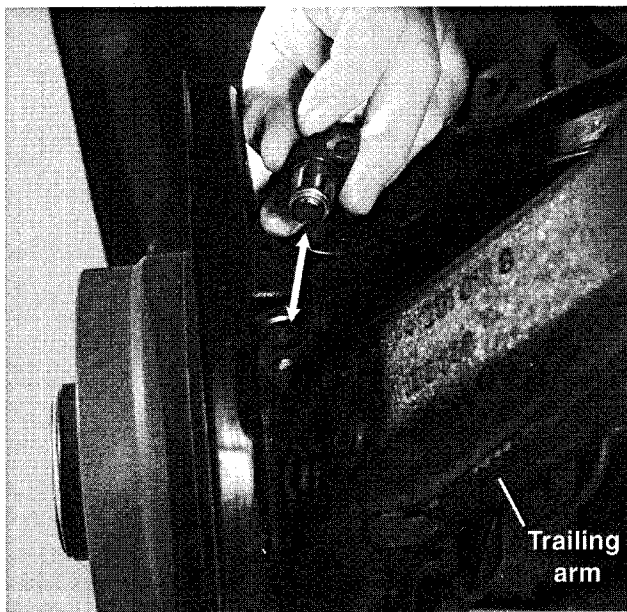

Fig. 8. ABS pulse sensor being removed.
4. Remove ABS pulse sensor. See Fig. 8.